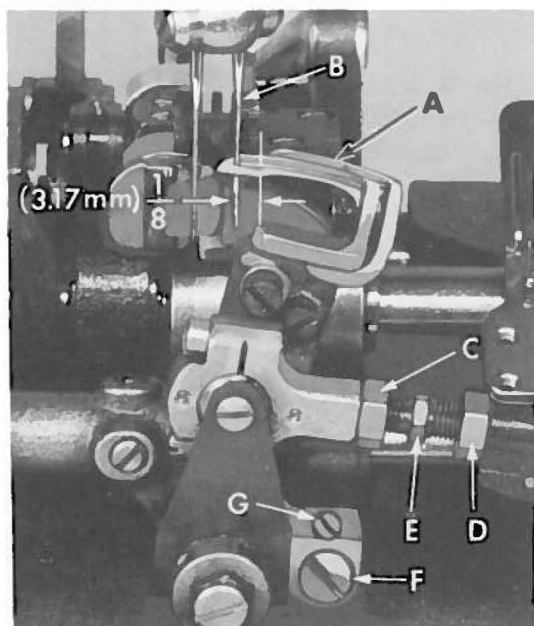

Fig. 5
Insert a new needle, type and size as specified. If the looper gauge is $\frac{1}{8}$ inch (3.17mm), for example, set the looper (A, Fig. 5) so the distance from the center of the needle (B) to the point of the looper is $\frac{1}{8}$ inch (3.17mm), when the looper is at its farthest position to the right. Looper gauge No. 21225- $\frac{1}{8}$ can be used advantageously in making this adjustment. On two needle machines set the back looper to the right needle when setting the looper gauge. Refer to chart for needle Type, looper gauge setting and looper gauge number. If adjustment is required, loosen nut (C, Fig. 5) (it has a left hand thread and nut (D) on connecting rod (E), turn the connecting rod forward or backward to obtain the $\frac{1}{8}$ inch (3.17mm) dimension. Retighten both nuts, first nut (D), then nut (C). Make sure the left ball joint is in vertical position and does not bind after adjustment.
If adjustment is necessary, loosen lock screw (F, Fig. 5) and turn stop screw (G) as required. Turning stop screw clockwise sets the looper to the rear and turning it counterclockwise acts the reverse. Holding looper to the front while making this adjustment may prove helpful. Tighten lock screw when setting is obtained and recheck the adjustment.